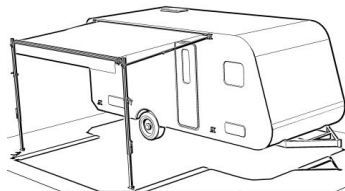

Figure D8
5.2 Ground Support (Figure D8)